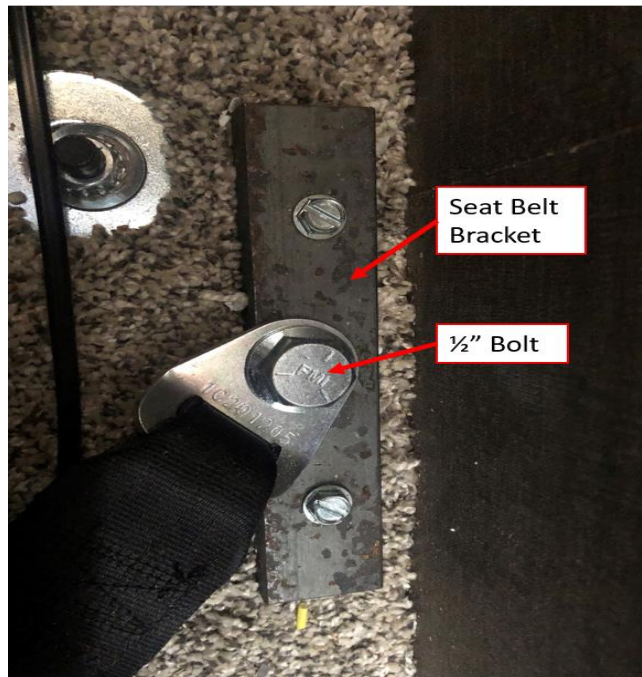

Figure 6
7. If all brackets are correctly located, remove the ½" bolt from the seat belt bracket which connects the incorrectly installed seat belt (Figure 6).